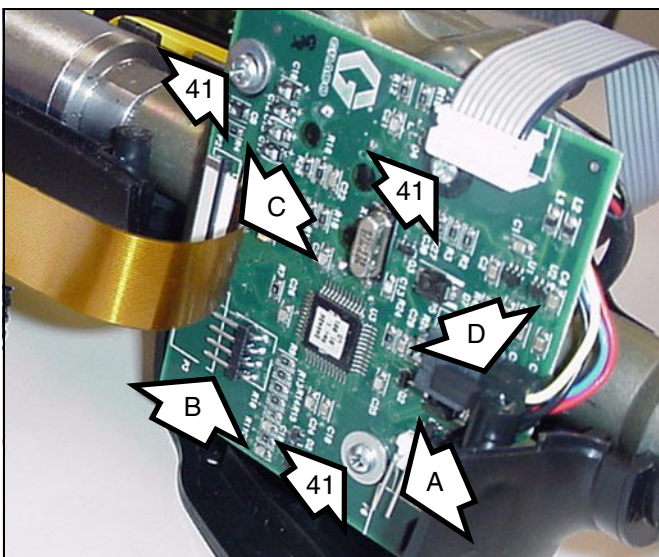
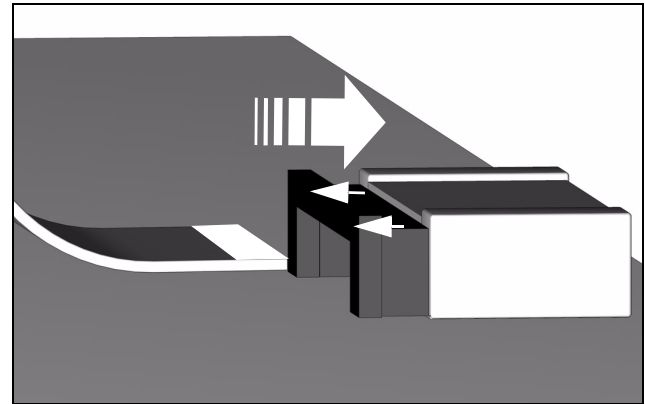
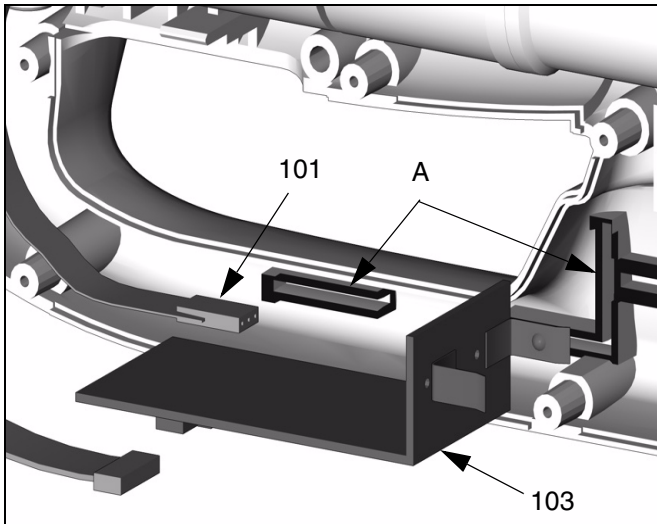

FIG. 43
FIG. 44
FIG. 46
8. Place the new right cover (18) along side of the meter.
9. Remove the trigger assembly (13, 14, 22, 23, 36, & 37) from the old cover (18) and set aside.
10. Remove the meter housing from the old right cover (18).
11. Disconnect the cables/wires (A, B, C, & D) that connect the bezel (31) to the circuit board (112) and the valve housing to the circuit board. See FIG. 43.
12. Remove the three screws (41) holding the PC Board (112) to the meter housing. See FIG. 43. Note that there is a washer (44) on each screw (41) between the board and the meter housing boss.
13. Remove the RF Board (103) from the cover half and disconnect the PSM switch cable (H) from the RF board (103). Set the old electronics (112, 103) aside. See FIG. 44 and FIG. 46.
14. Connect the new circuit board (112) to the valve housing using three screws (41). See FIG. 43. Be sure to install a washer (44) on each screw (41) between the PC Board and the meter housing boss.
15. Connect the cables/wires (A, B, C, & D) that connect the bezel (31) and the valve housing to the circuit board (112). See FIG. 43 and FIG. 44.
When reconnecting cable C to the circuit board (112), ensure that the cable is positioned with the white tab facing up and that the cable is straight before pushing in (closing) the clasp. See FIG. 44.
17. Plug connector end of the new PSM switch (101) into the RF Board (103). See FIG. 46.
18. Insert the RF Board (103) into the meter cover (18). Make sure that the RF board (103) fits securely into the two slots (A). See FIG. 46.